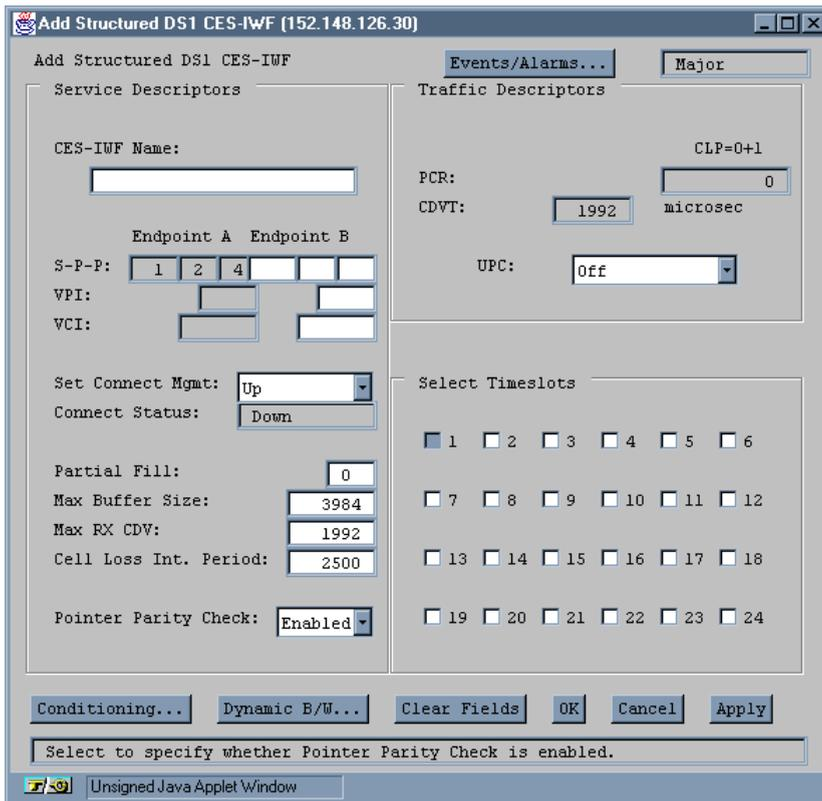
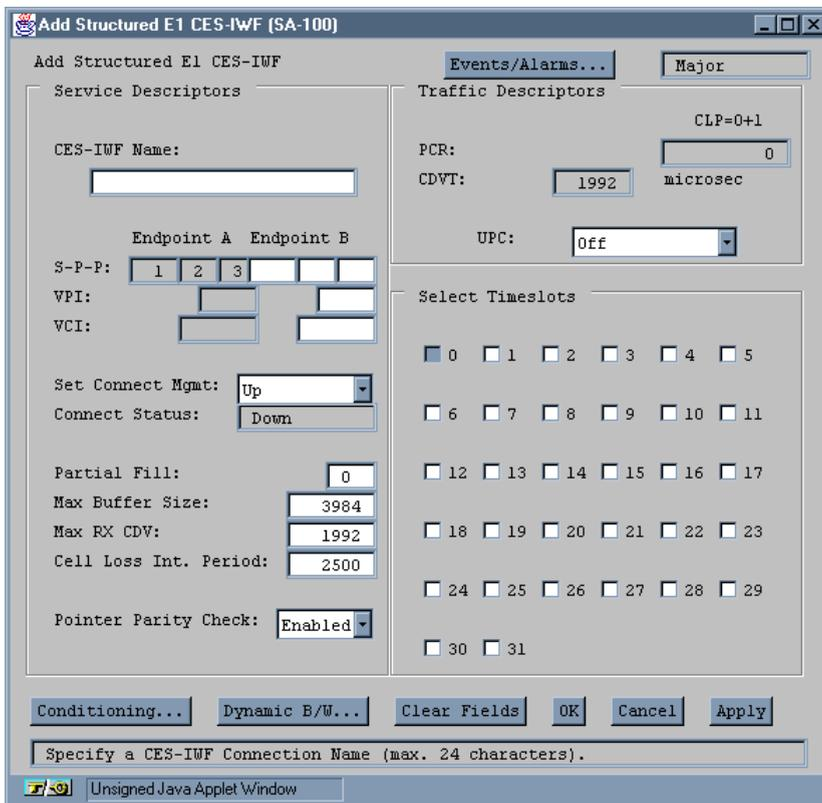

Figure 5-22. Add Structured DS1 CES-IWF Window
Figure 5-23. Add Structured E1 CES-IWF Window
- b. If you Set CBR Service to “Structured”, the Add Structured DS1 CES-IWF window (see Figure 5-22) or the Add Structured E1 CES-IWF window appears (see Figure 5-23).